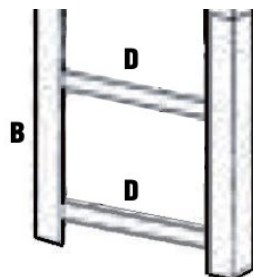

Fig. 1
1. Take 2 of the vertical supports (B) and connect them at the lowest possible position with 1 of the short shelf braces (D) (Fig. 1).
2. Install a second short shelf brace at the desired position (Fig. 1).